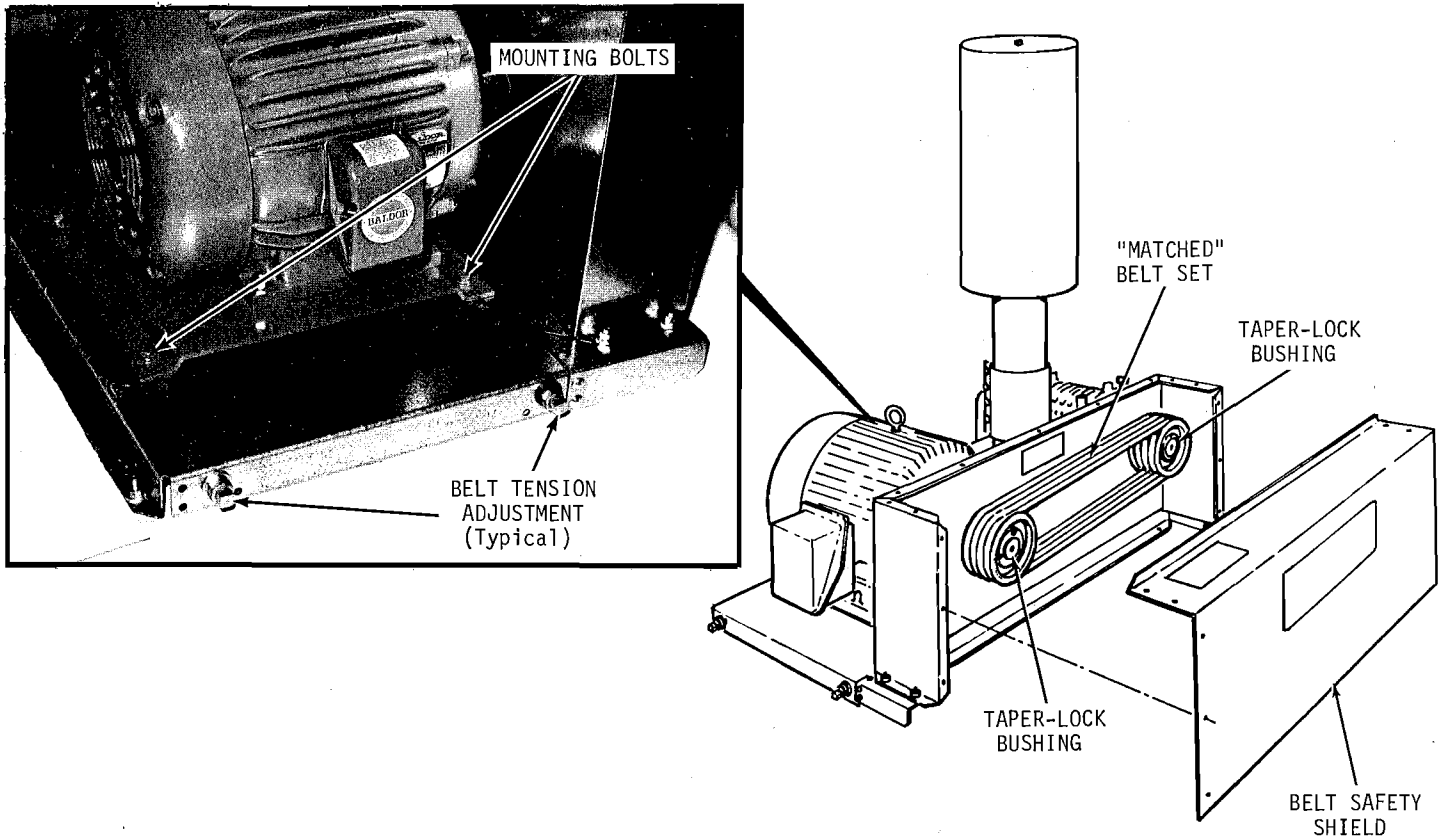

FIG. 20- BLOWER DRIVE BELTS (TYPICAL)
4. Drive Belts (Fig. 20) - Visually check for signs of stretching, slippage, cracks, and other evidence of failure.